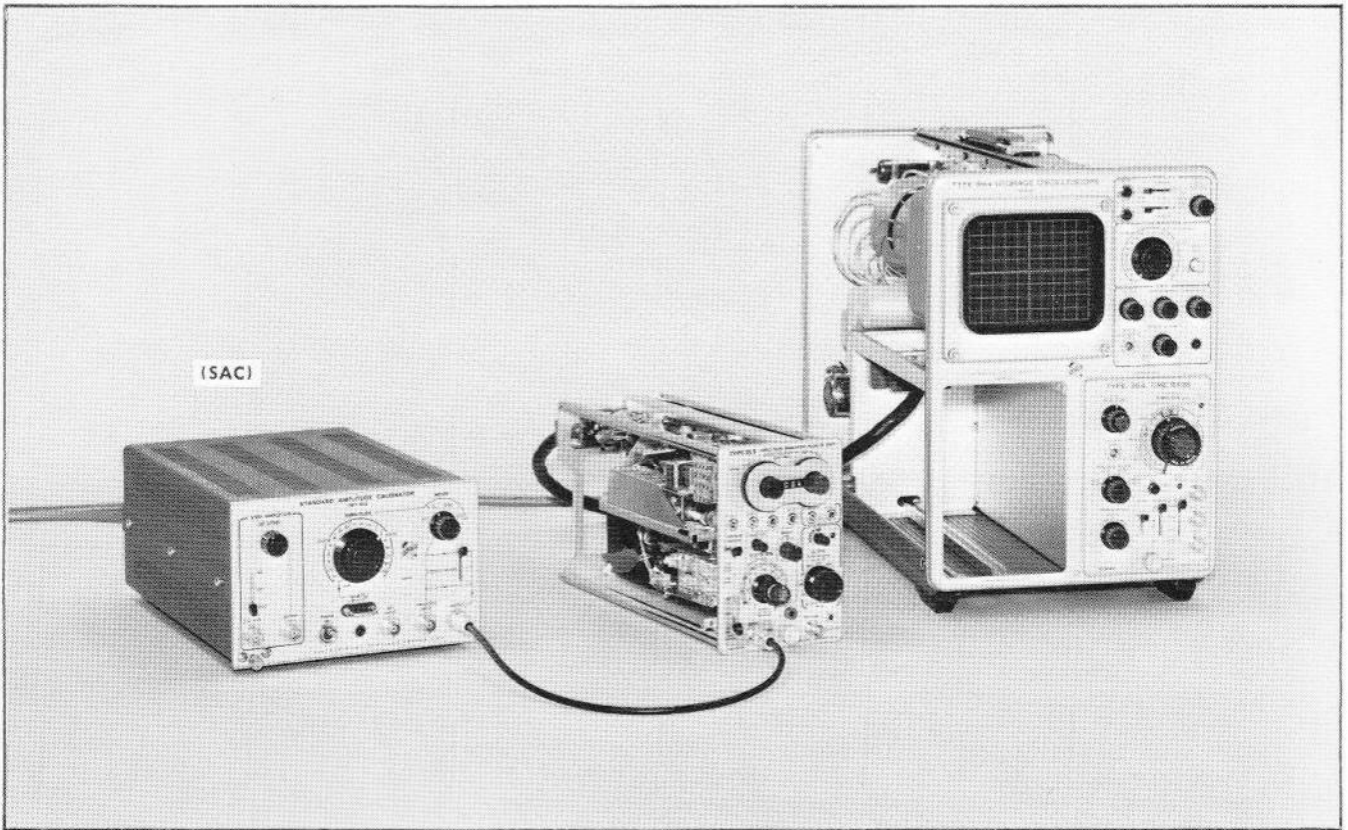

Fig. 6-2. Equipment setup for steps 1 and 2.
- a. Equipment setup is shown in Fig. 6-2.